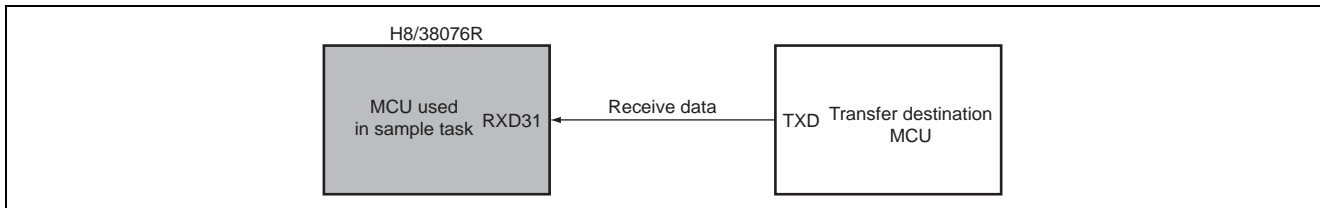

Figure 1 Serial Data Reception in the Asynchronous Mode
- Figure 1 shows a connection diagram for serial data reception in the asynchronous mode.